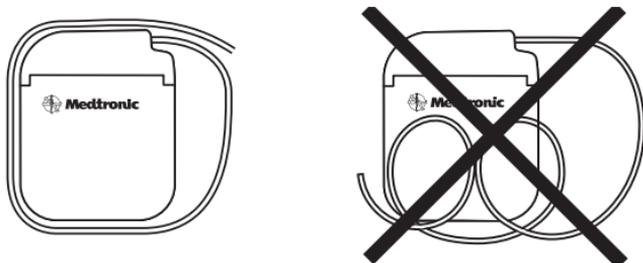

Figure 3. Wrap excess extensions or leads around the perimeter (or behind) the neurostimulator.
- Do not coil excess extensions or leads in front of the neurostimulator. Wrap excess extensions or leads around the perimeter (Figure 3) or behind the neurostimulator to help minimize potential damage during neurostimulator replacement surgery, help minimize potential kinking of the extension/lead, and minimize interference with telemetry.